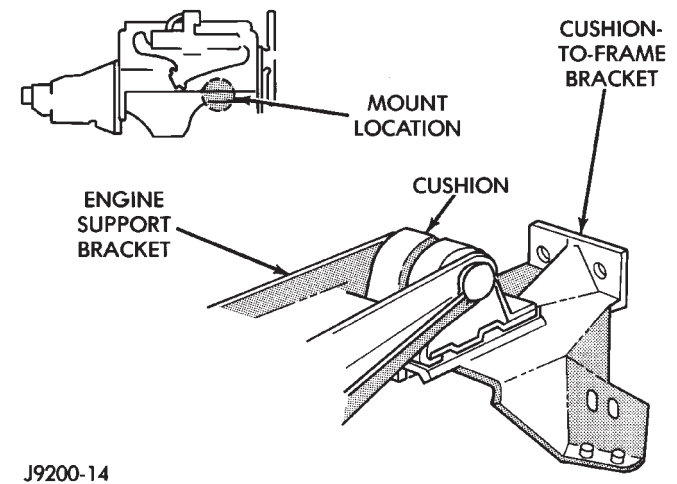

Fig. 17 Front Engine Support—Typical
- (1) Test the hardware that attaches the engine cylinder block to the engine support brackets (Figs. 17 and 18) for the specified tightening torque.
- (2) Inspect the rubber in the engine support cushions for softening and swelling. Slight surface deterioration and wear at the ends will not affect the functioning of an engine support.